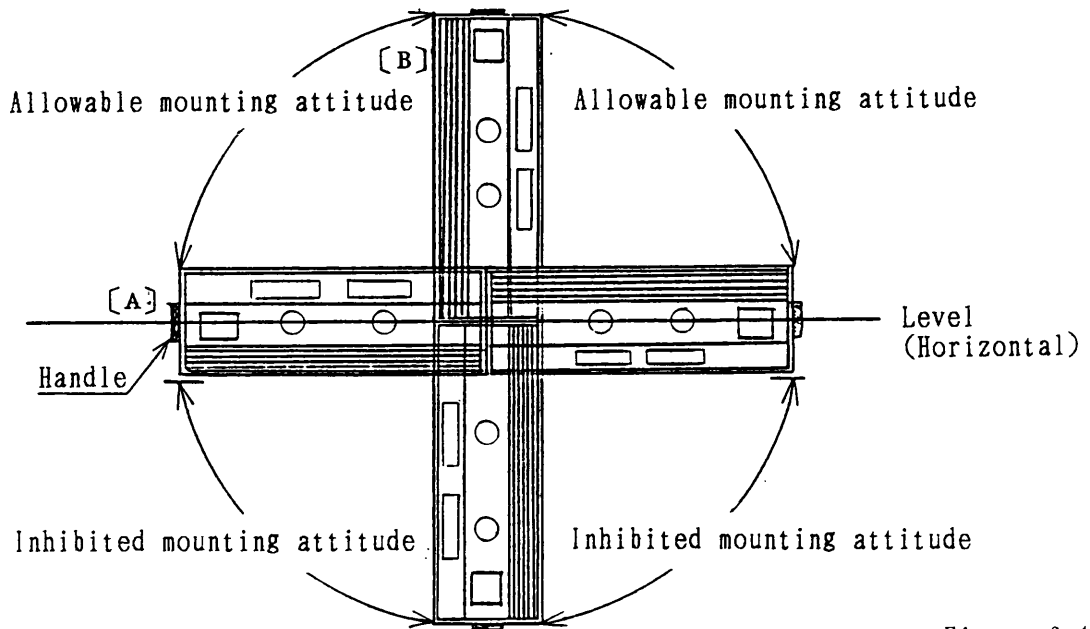

Figure 2-1
- The allowable or inhibited mounting attitudes of the power supply are as shown in Figure 2-1. Install it in the attitude of [A] or [B]. Don not install it in the attitude that the handle is positioned lower than the horizontal level.